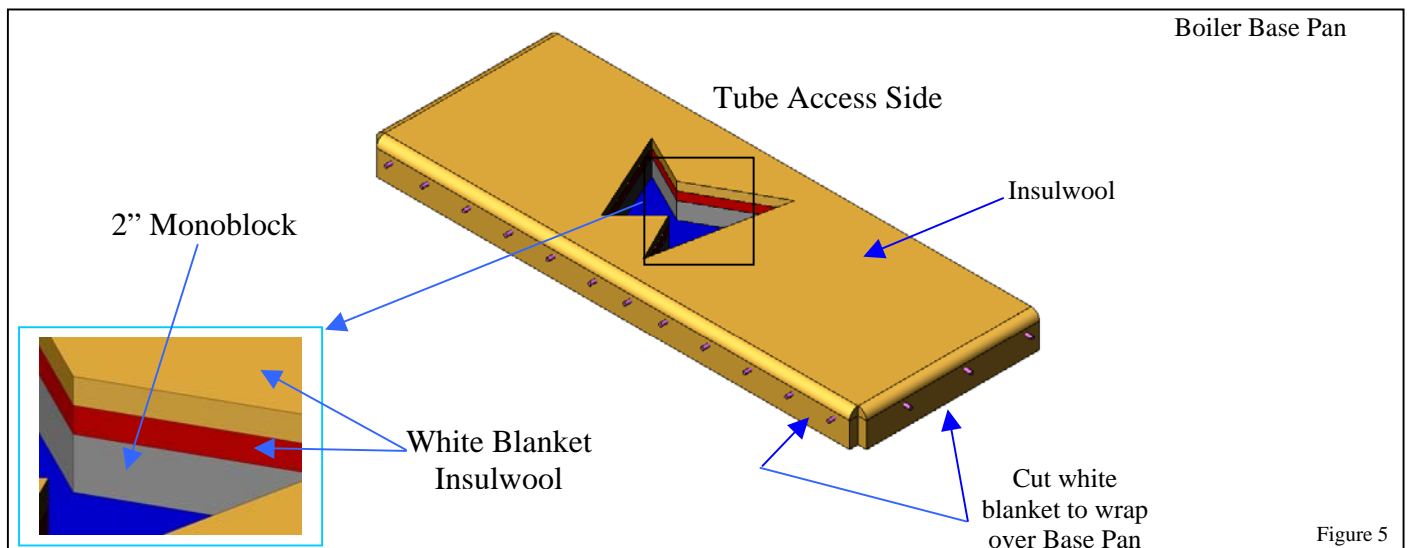

Figure 5
- 2.2 After monoblock and insulwool is placed inside Base Pan, cut 1" white blanket insulwool insulation to fit over the Base Pan and wrap over the stud sides. See Figure 5.